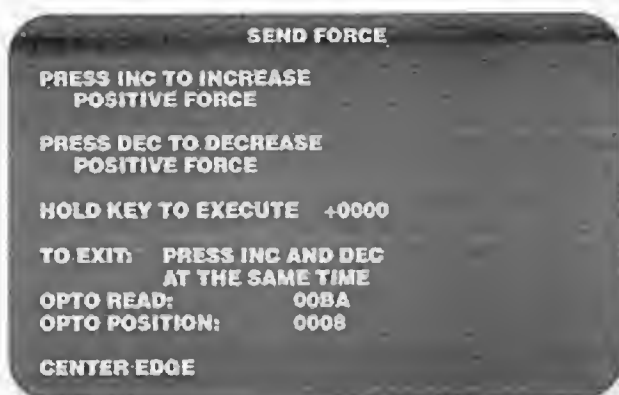

Figure 2-21 Send Force Screen
- *Send Force* sends a steady force to the motor amplifier PCB. See Figure 2-21.
- *Sine Wave* sends a sine wave force to the motor amplifier PCB. This screen is similar to Figure 2-21.
- *Square Wave* sends a square wave force to the motor amplifier PCB. This screen is similar to Figure 2-21.
- *Triangle Wave* sends a triangle wave force to the motor amplifier PCB. This screen is similar to Figure 2-21.